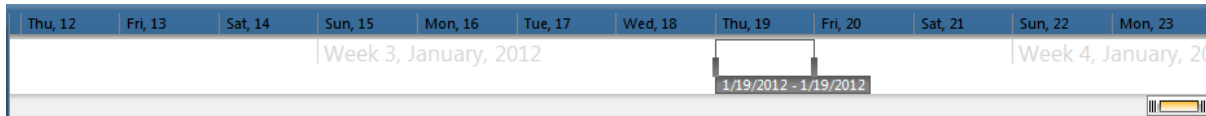

Figure 18 – Date/Time Selection
The SnapView software regularly attempts to synchronize with all connected DataSnaps. This occurs in the background and is therefore no user interaction is required. During synchronization, a green status icon is displayed in the upper right corner of the screen. Hovering the mouse over the icon displays the number of logs that still need to be retrieved from the DataSnap as shown in figure 18.
- **Specify the date range** - The time bar at the top of the screen shows a range of selectable dates. See figure 18.